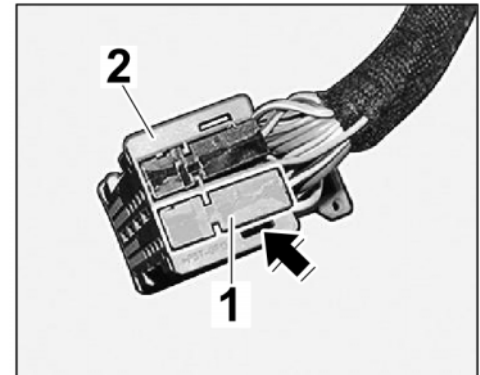

Figure 16
2.4.2 Open the locking mechanism (⇒ *Figure 16 -arrow-*) and push the grey plug socket out of the black plug carrier (⇒ *Figure 16*).